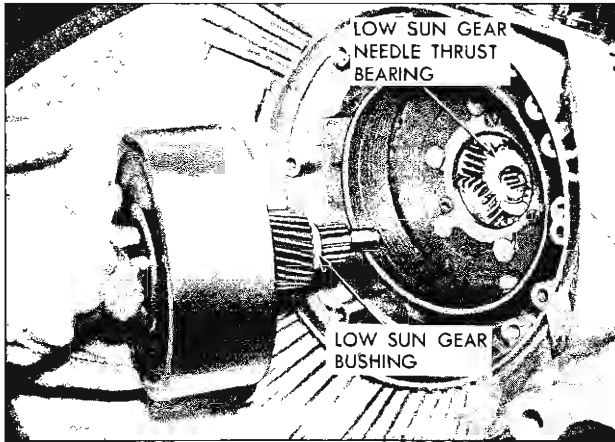

Fig. 12PG—Removing Clutch Drum and Input Shaft
13. Release the tension on the low band adjustment, then, with transmission horizontal, grasp the transmission input shaft and carefully work it and the clutch assembly out of the case (fig. 12PG). Use care so as not to lose the low sun gear (splined) bushing from the input shaft. The low sun gear thrust washer will probably remain in the planet carrier.